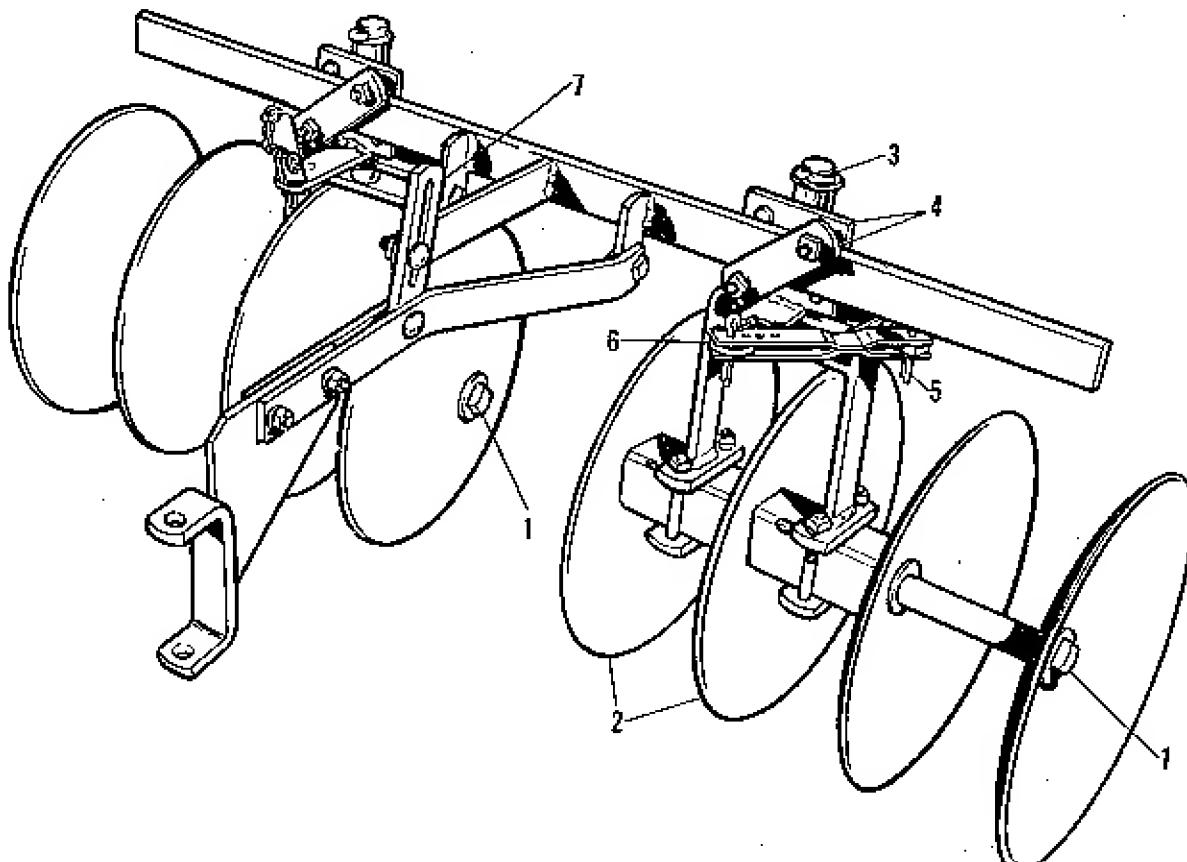

Fig. 1
1. Remove the gang bolts (1) from the frames and assemble the discs (2) into right hand and left hand gangs as shown in figure 1. Insert the gang bolts through the discs and wood bearings and secure in place with nuts and washers.
2. Clamp the disc gangs in place on the toolbar (3) using clamps (4), carriage bolts, hex nuts and lockwashers, as shown in figure 1.